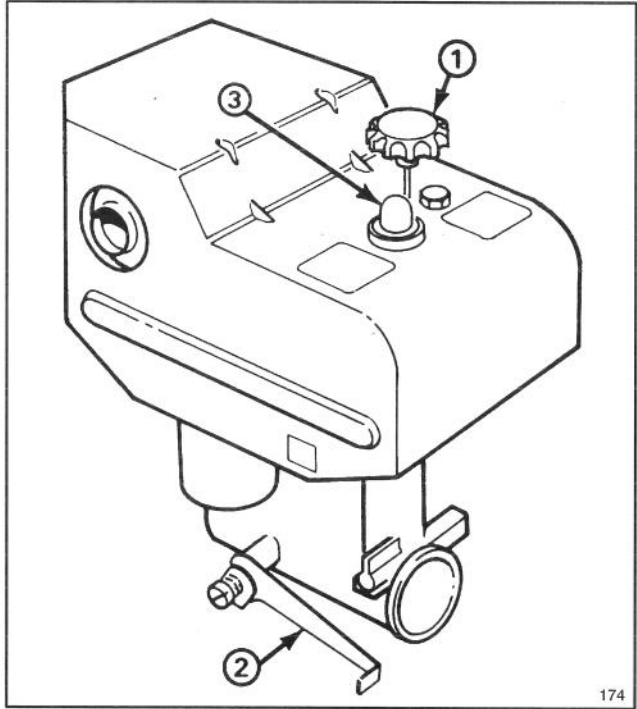

Figure 14
Throttle (Fig. 14)—Move throttle upward to increase the engine speed.
Choke (Fig. 14)—Push choke down to FULL choke position to start a cold engine. As engine warms up, move choke gradually to OFF.
Primer (Fig. 14)—Press primer to pump small amount of gasoline into engine for improved cold weather starting.
4. Move choke to ON choke position (Fig. 14).
6. Depress primer (Fig. 14) five times.
8. After engine starts, immediately move choke (Fig. 14) to 3/4 position. As engine warms up, move choke to 1/2 position; then to OFF position. If engine falters, return choke to 1/2 position. When engine warms sufficiently, move choke to OFF position.